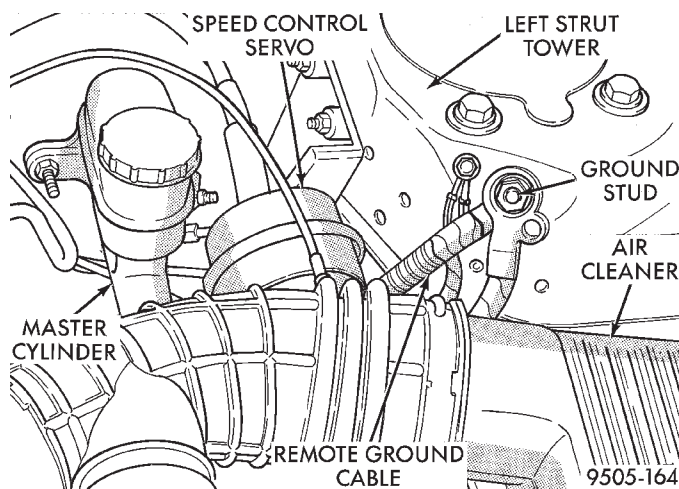

**Fig. 10 Remote Ground Cable Attachment To Strut Tower**
(1) Remove the remote ground cable from the ground stud located on the left strut tower (Fig. 10).
(11) Install the remote ground cable onto the ground stud located on left shock tower (Fig. 10). Install the remote ground cable attaching nut and tighten to a torque of 28 N·m (250 in. lbs.).
(12) Bleed the base brakes and the ABS brakes hydraulic system. Refer to the Bleeding ABS System in this section of the manual for the proper bleeding procedure.
(13) Road test vehicle to ensure proper operation of the base and ABS systems.